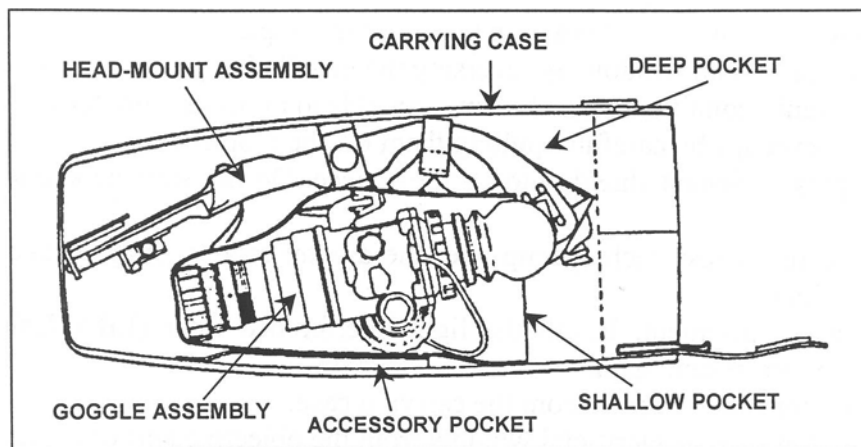

Figure 5. Stow goggles in carrying case.
- (1) Place the protective mask on your head per instructions provided with the protective mask.
- (2) Make sure you do not break the seal of the protective mask around your face when you install the headmount assembly over the protective mask.
- 6. Stow the night vision goggles (Figure 5).